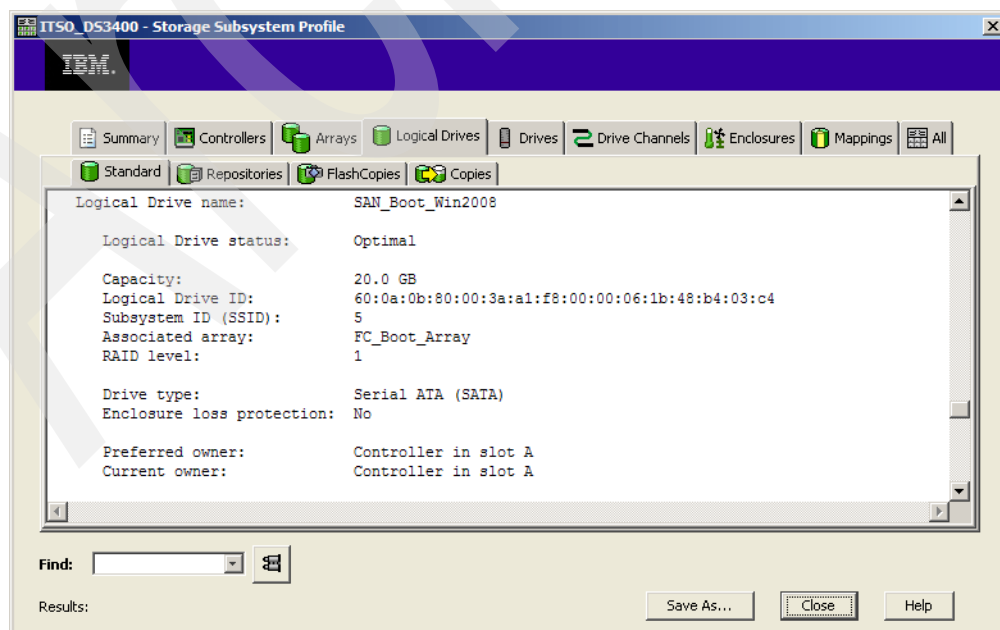

Figure 27-42 Boot volume owner - Controller A
1. Verify the current owner of the boot volume, in our example, Controller A, by viewing the logical drives section under the Subsystem Profile in the DS3400 Storage Subsystem Manager, as shown in Figure 27-42. Do this by selecting **Storage Manager** → **Subsystem Profile** → **Logical Drives**.